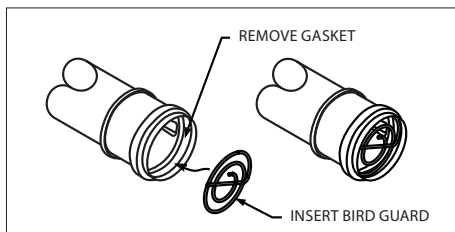

Figure 10
8. Remove gasket and install Bird Guard into end of pipe. (**Fig.10**)